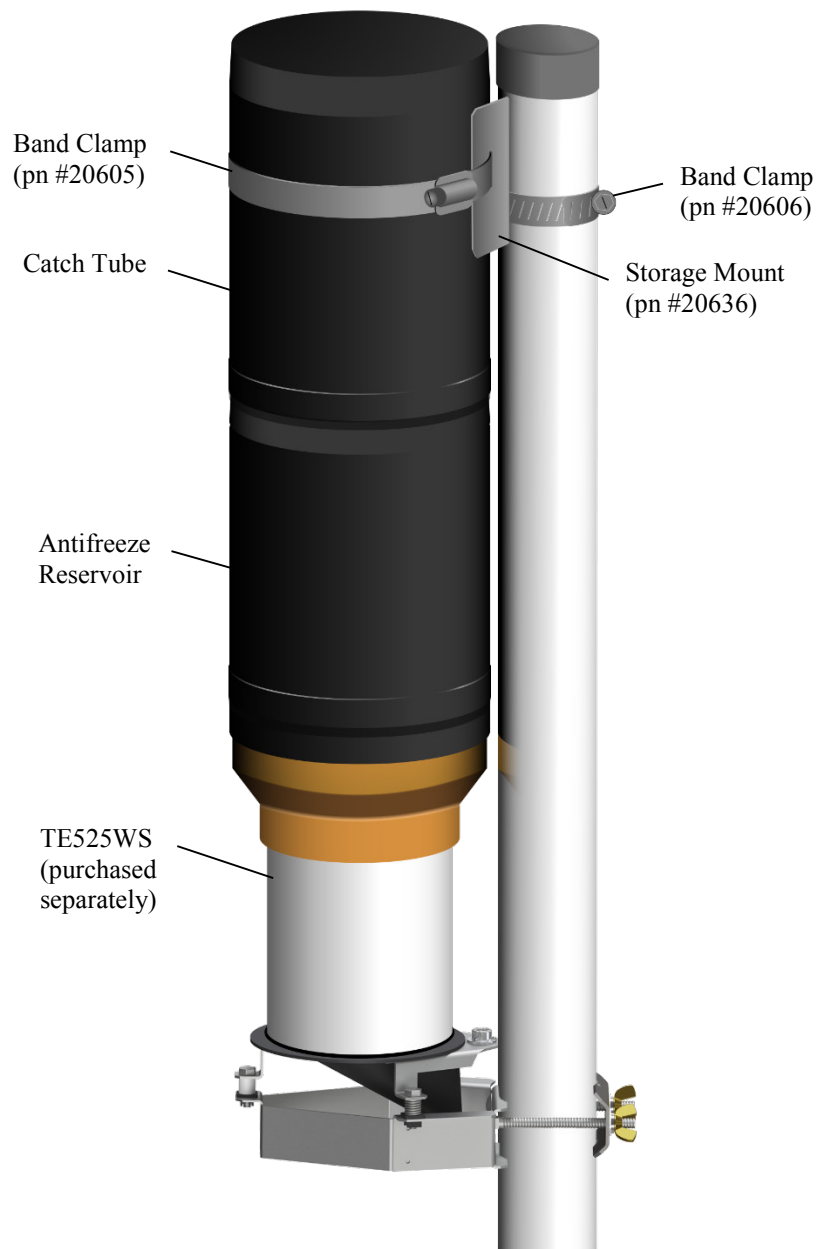
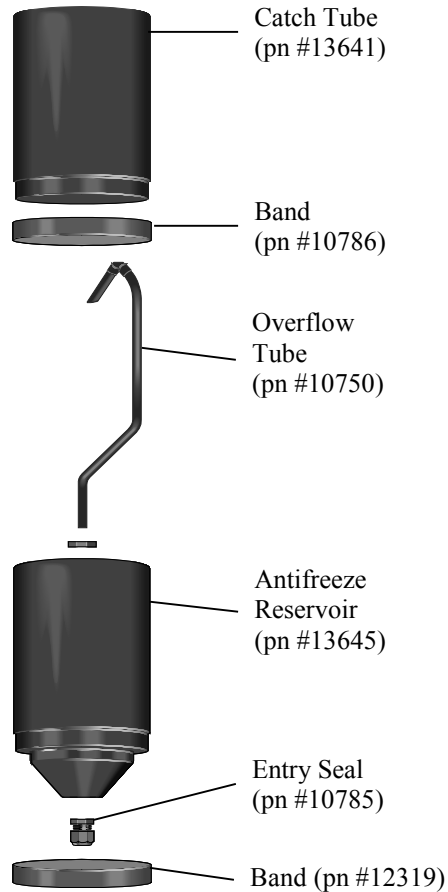

FIGURE 6-8. CS705 mounted to pole using the CM270 Mounting Kit
FIGURE 6-9. CS705 exploded view
1. Take one of the black bands supplied with the CS705 and stretch over the TE525WS funnel (see FIGURE 6-8 and FIGURE 6-9).
8. Fasten the catch tube of the CS705 to the mounting pole using the band clamps and storage mount (see FIGURE 6-8).